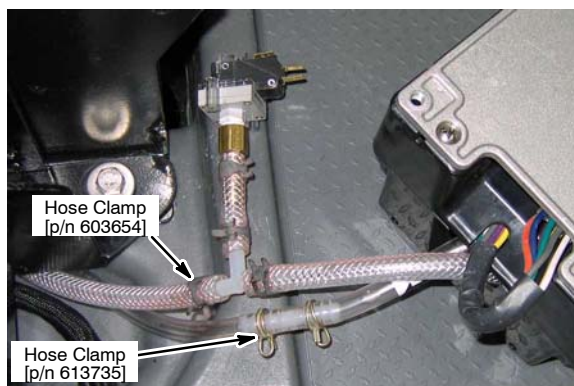

Fig. 34
5. Connect the module [p/n 9006269] to the routed hoses as shown (Figure 34).